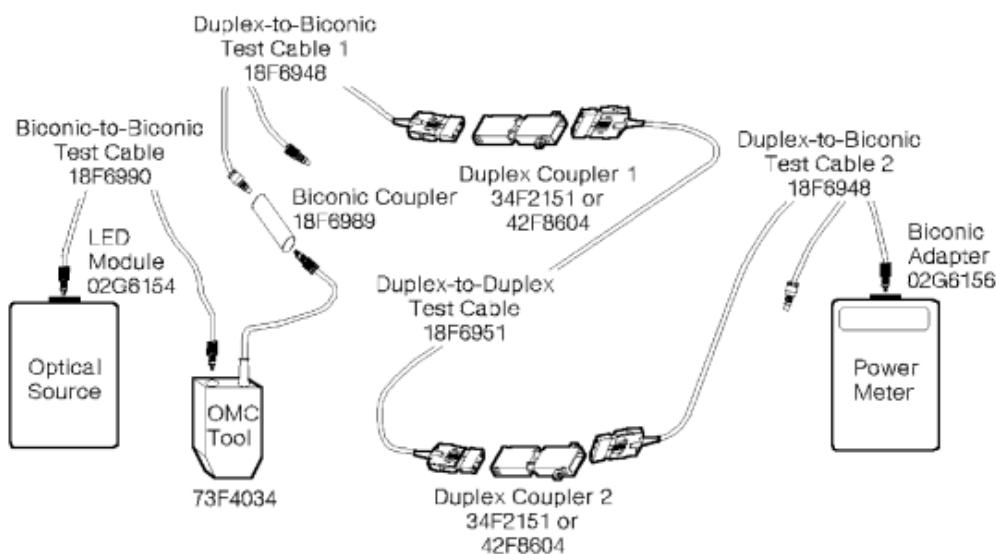
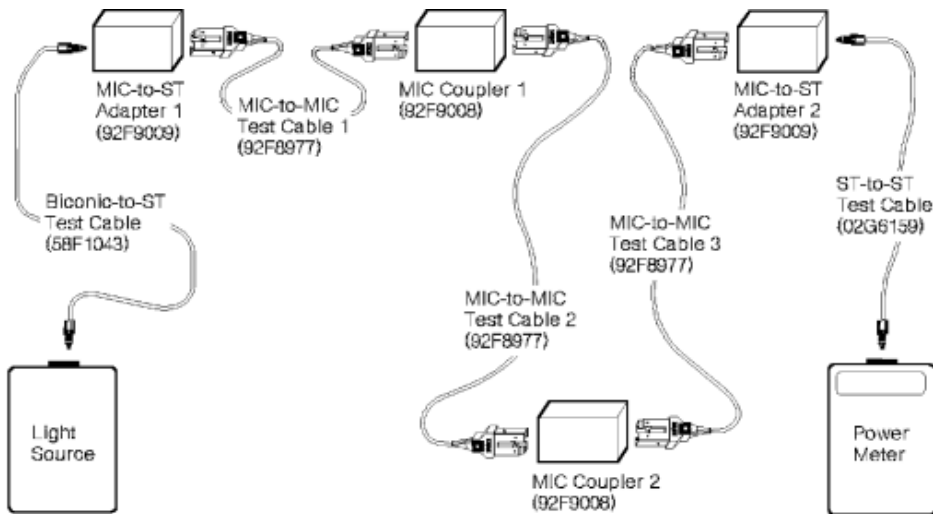
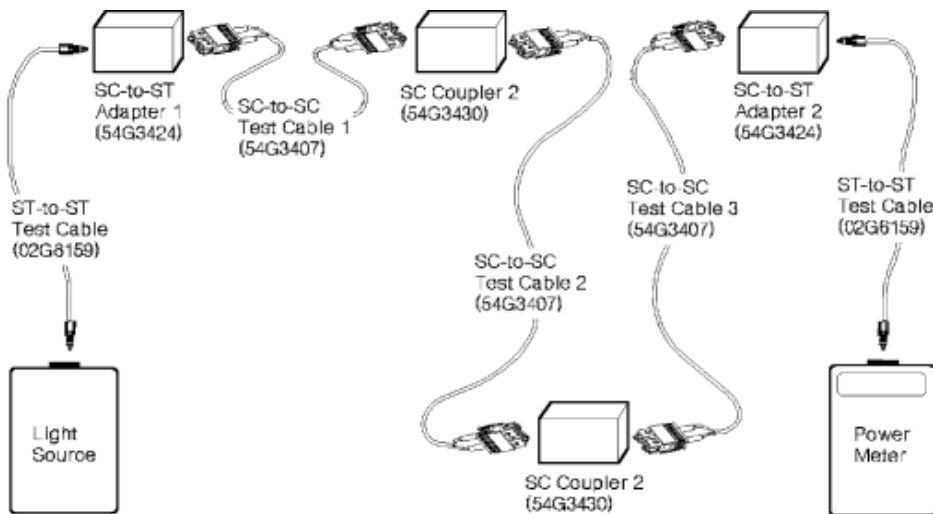

Figure 50. Obtaining **P1** for a multi-mode link
Figure 52. Obtaining the link loss reference level (P1) - FDDI
Figure 53. Obtaining the link loss reference level (P1) - ATM or FICON
3. Make sure all connectors are clean; then assemble the test equipment (see Figure 50 on page 44, Figure 52 on page 45, or Figure 53 on page 45).